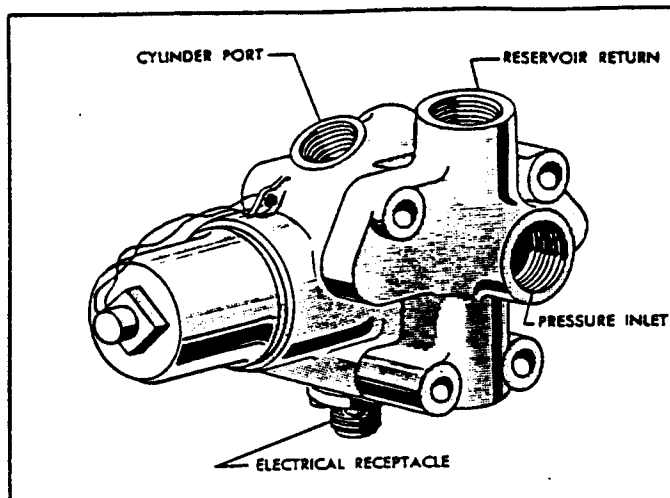

Figure 19. Hydraulic Steering Valve -
1. MECHANICAL.- When the steering handle (with the trigger compressed) is turned, the connecting mechanical linkage conveys the motion to the hydraulic selector valve in the steer damp, which turns the nose wheel in the direction desired. See paragraph d (3) (j) following, for description and operation of the linkage.
2. HYDRAULIC.- The nose wheel steering is operated by depressing the steering-handle button which energizes the solenoid valve (see figure 19) and supplies fluid to the steering unit. This valve has two cylinder ports, a pressure port and a return port. One of the cylinder ports is connected normally to the pressure port. When the solenoid is actuated the opposite port is pressurized and the first cylinder port is opened to the return port. When in the "OFF" position, the valve maintains a preload pressure in the shimmy damper. Energizing the valve cuts out the damper and supplies pressure for steering. The steering unit has an internal valve which is operated manually by turning the steering handle. Depressing the button on the steering handle also energizes the solenoid valve supplying pressure to the foot-brake valves. Thus the pilot can steer and energize his foot brakes at the same time. The nose-steering-and-brake system is operative only when on the ground. Cut-off switches are located on each main gear mechanism, so that the circuit is opened when the gears retract. The circuit to operate the solenoid valves is energized by the master battery switch. An anti-steering switch is located on the nose-gear strut so that the strut must be compressed before the steering unit can be used. The nose-steering hydraulic system is a part of the main hydraulic brake and steering system. Only the individual unit pertaining to steering operations is dealt with in this paragraph. Refer to paragraph 16 (a) 2 for complete system.